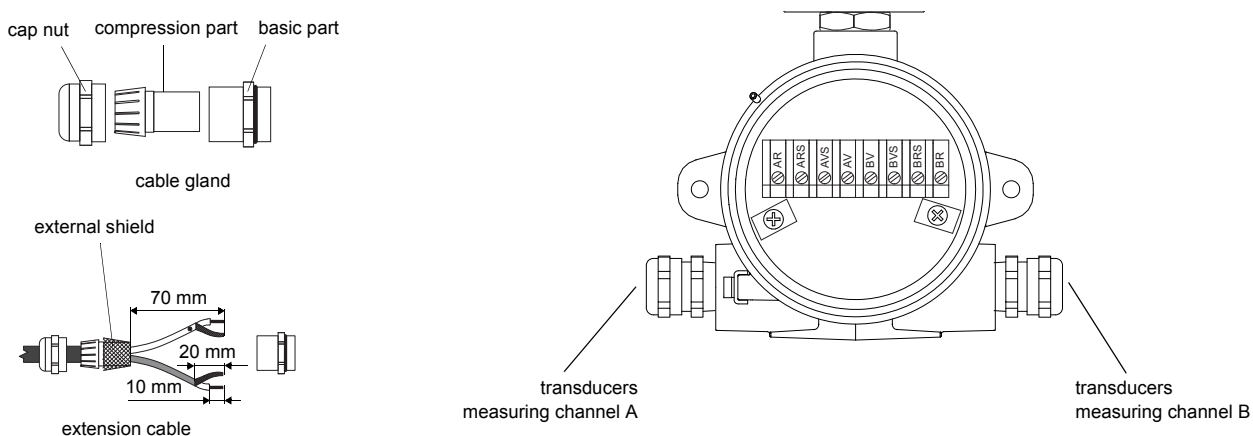

Fig. 7.7: Connection of the extension cable
- Remove the blind plug for the connection of extension cable (see Fig. 7.7).
- Connect the extension cable to the terminals of the transmitter (see Fig. 7.7 and Tab. 7.3).